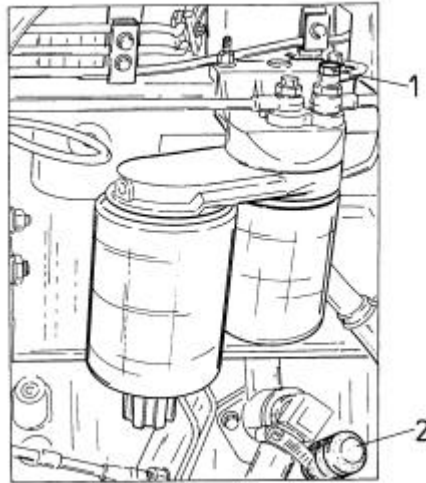

Fig. 5.33. Venting the Fuel System
5.13.4. VENTING THE FUEL SYSTEM (Fig. 5.33)